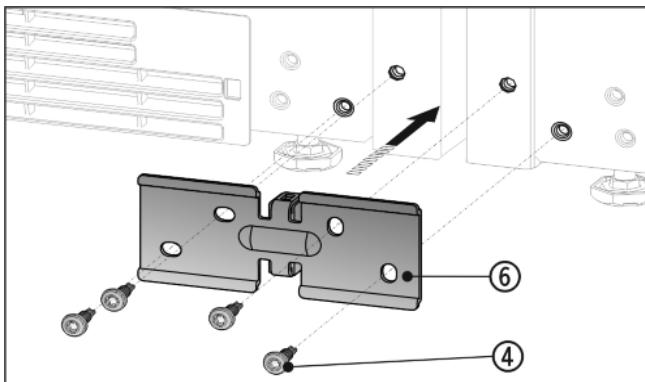

Fig. 8
- ▶ Slide the bracket Fig. 8 (6) on with the spacer between the appliances and screw in loosely with the 4 screws Fig. 8 (4).